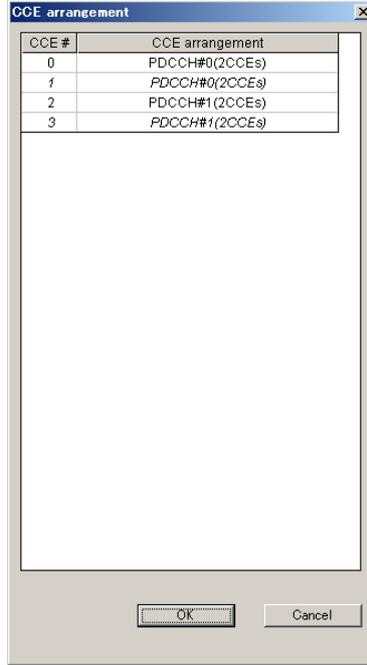

Figure 3.3.1.1-1 CCE arrangement
9. tree view, and then specify the settings shown in Figure 3.3.1.1-1.